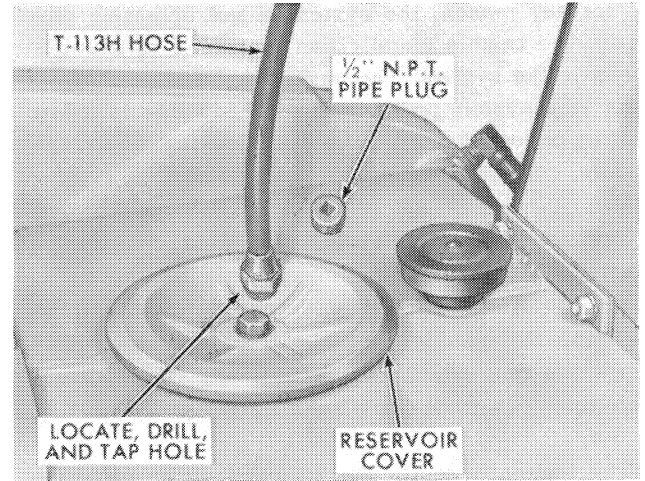

Figure 51
1. Remove the hydraulic package reservoir cover and filter assembly, Figure 51.